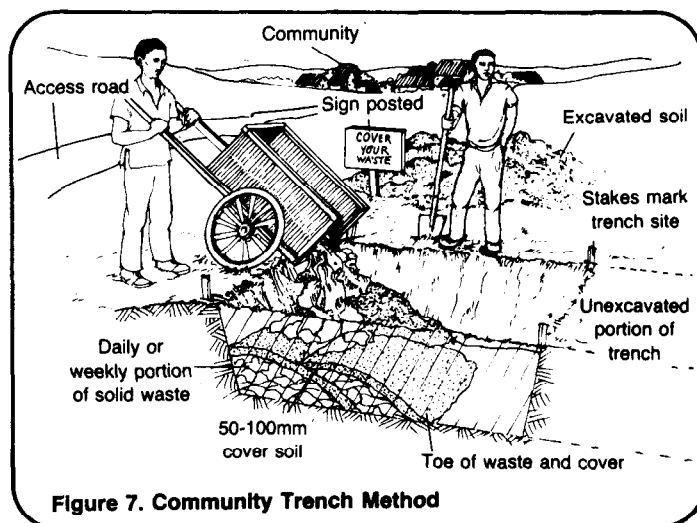

Figure 7. Community Trench Method
3. Begin excavating the trench at one end. If there are no paid workers, this should be a community effort with one or more days set aside for the work. The excavation could be done with shovels, but animal-drawn plows and scoops or mechanized equipment, if available, may be preferable. Dig to the design width and depth of the trench, but only about one-fifth to one-tenth of the length. If the entire trench length is excavated, it may fill with soil due to wind and rain erosion and have to be re-excavated. This will contain about six to twelve months' accumulation of the community's solid waste. See Figure 7.
8. When the toe of the waste and cover soil nears the unexcavated portion of the trench, usually after at least six months, dig another one-fifth to one-tenth of the trench length of the design width and depth. This should be a community effort if it is not done by paid workers. See Figure 7.